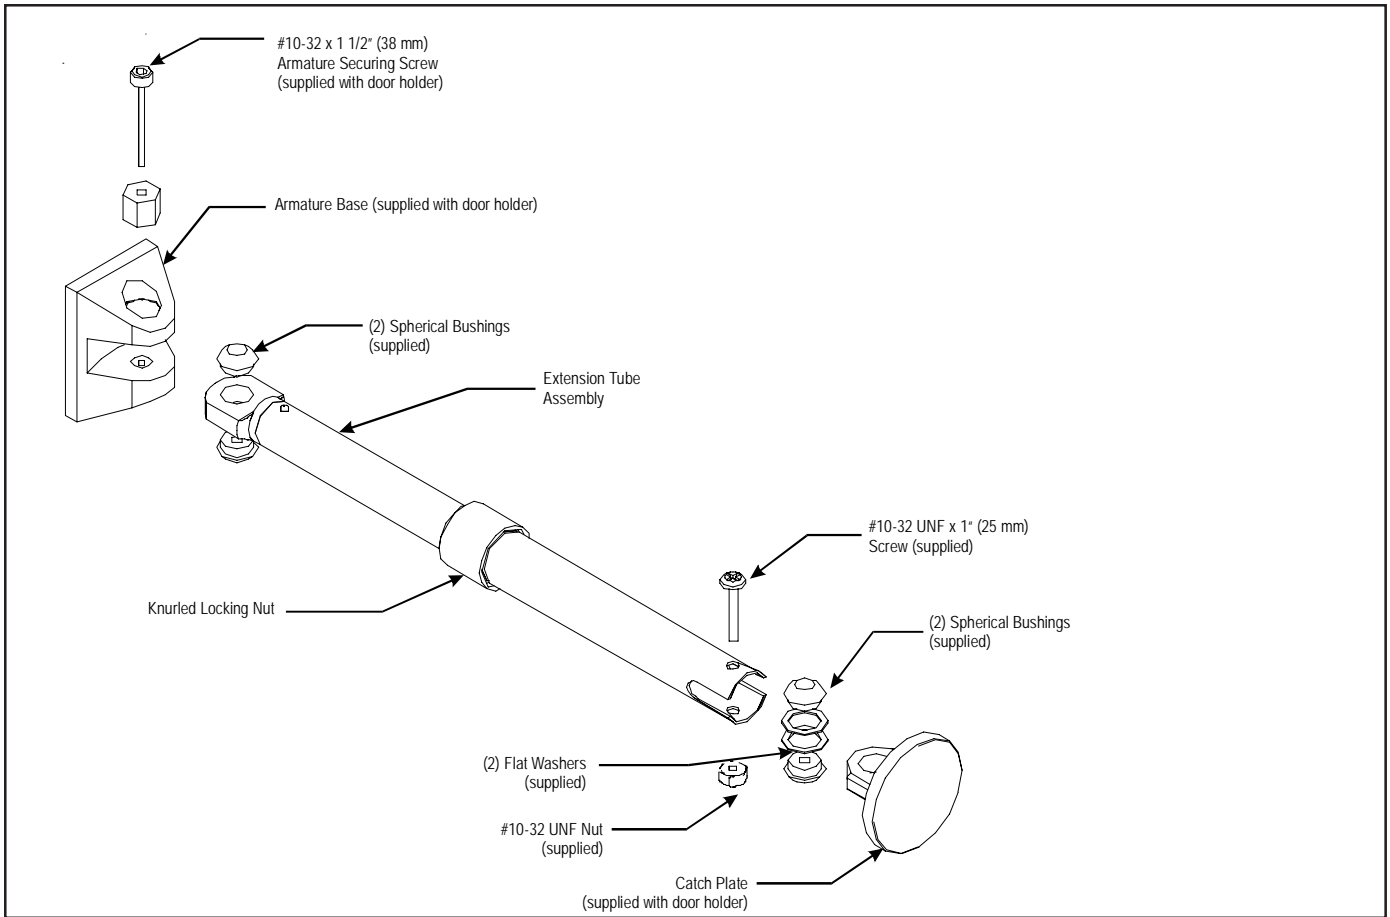
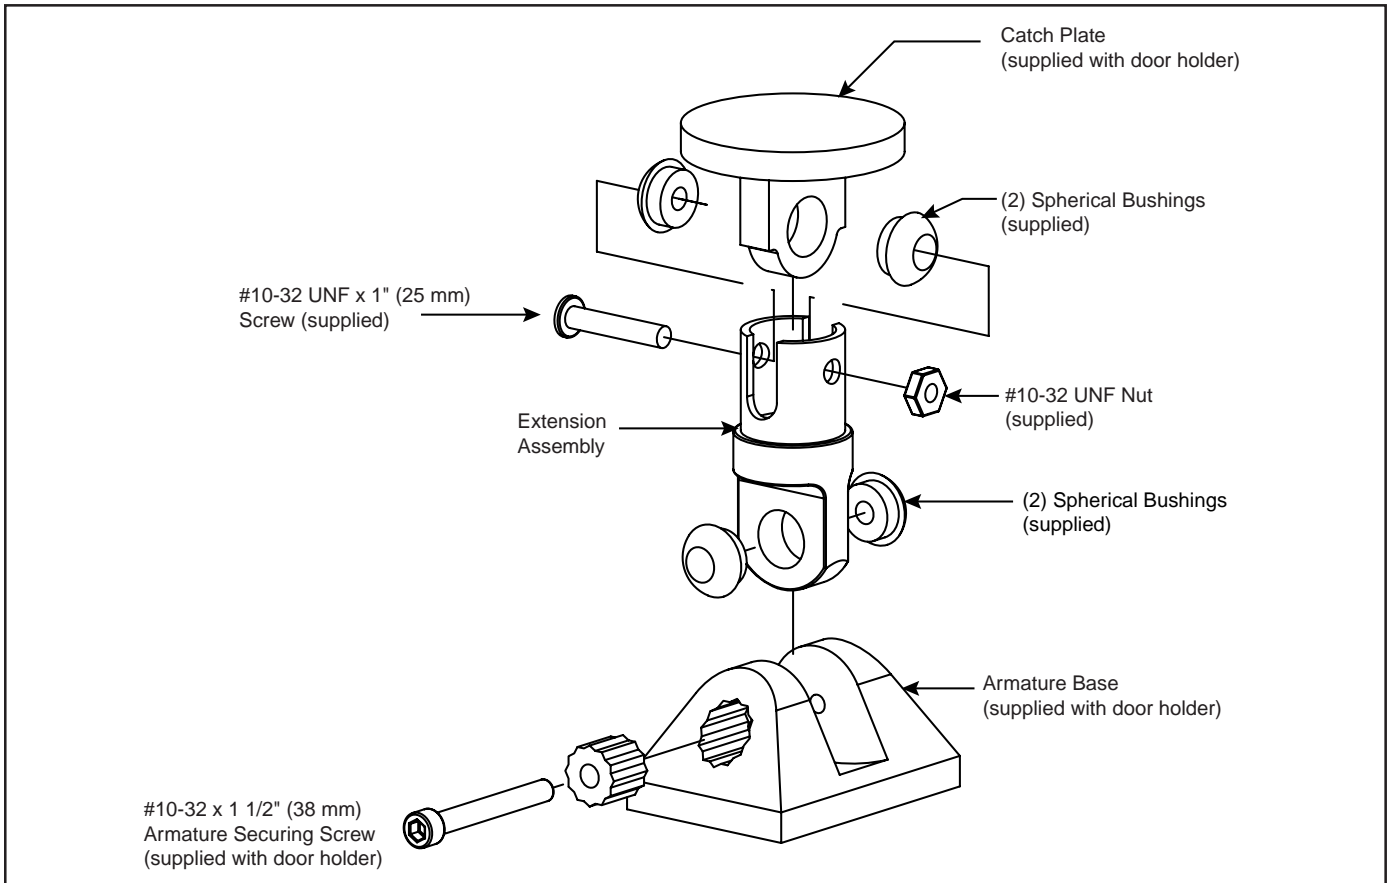

Figure 2. Extension Rod Assembly (Adjustable 1500-7 and 1500-12 Model)
Figure 3. Extension Rod Assembly (Adjustable 1500-1 and 1500-2 Model)
- b. Insert spherical bushings (removed in Step 1.a) as shown in Figure 2 or Figure 3 as applicable. If bushings are damaged, replace with bushings supplied with the door holder extension kit.
- d. Insert spherical bushings (supplied) and flat washers (supplied with 1500-7 and 1500-12 only) into the extension rod assembly as shown in Figure 2 or Figure 3, as applicable. Secure catch plate in extension rod using #10-32UNF x 1" (25 mm) securing screw (Figure 2).
- e. For adjustable units only, adjust the extension length by loosening the knurled locking nut, extending the rod to the desired length and retightening the knurled locking nut (Figure 2).
- g. After the desired extension length and contact alignment have been achieved, perform the following (Figure 2):
1. Using a 5/32" (4 mm) Allen Wrench (supplied), lock the extension arm into position by tightening the armature securing screw (Figure 2). **Do not overtighten.**